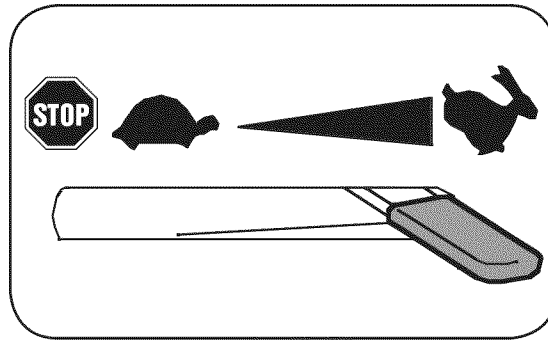

Figure 4-2
3. The throttle control lever is located on the engine. Move engine throttle control lever to FAST or START position. See Figure 4-2.